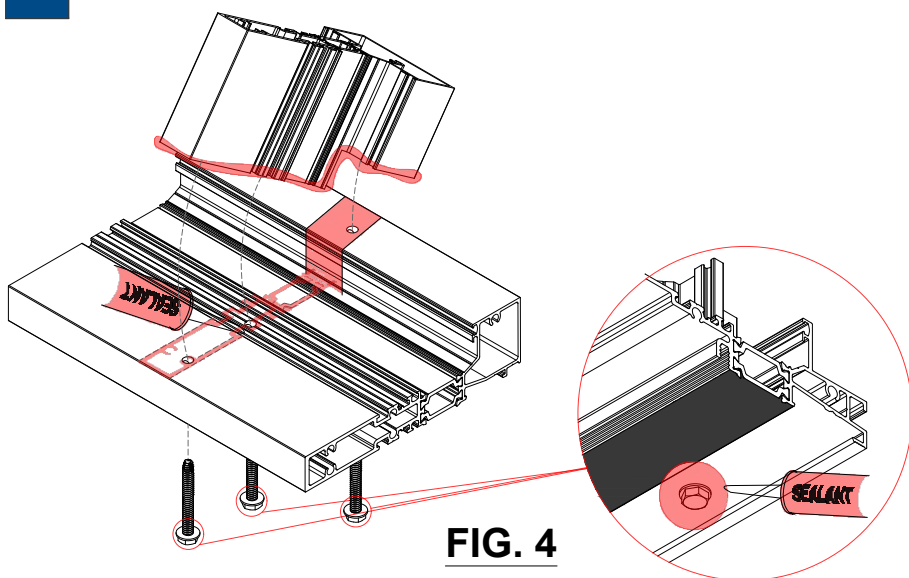

FIG. 4
- c. Apply sealant to the both ends of the profile. **See FIG 4**
- d. Pump the sealant across the gutter area slightly higher than the voids in section profile. **See FIG 4.**
- e. Carefully set the vertical section onto the sill lining up the assembly holes and installing appropriate fasteners and lock screw. **See FIG 4.**